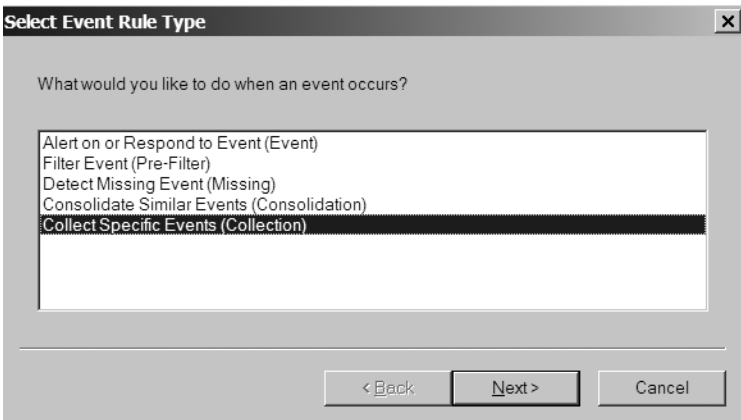

Figure 3-4. *Selecting Collect Specific Events (Collection)*
2. In the Select Event Rule Type window, select Collect Specific Events (Collection), and then click Next. This is shown in Figure 3-4.